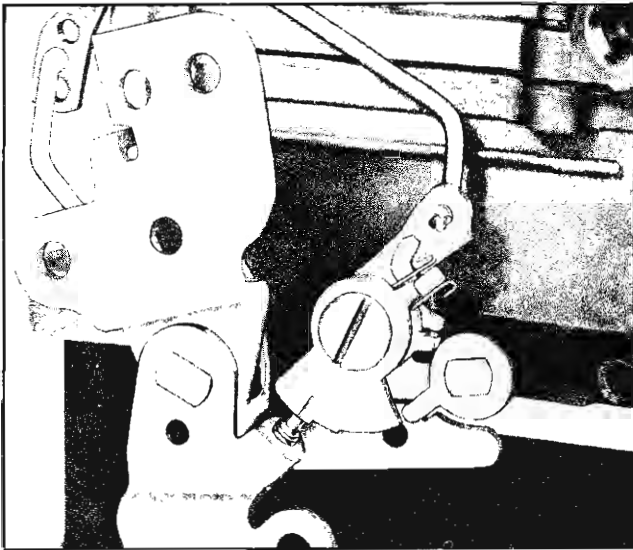

Fig. 6B-124 Checking Choke Shaft Lever
2. The distance from the top of the bowl cover to bottom of "S" pump link should be  $\frac{5}{16}$ "  $\pm$   $\frac{1}{32}$ " (Fig. 6B-123). Adjust pump linkage so that all play is removed at closed throttle position and full throttle lever travel is still obtainable.